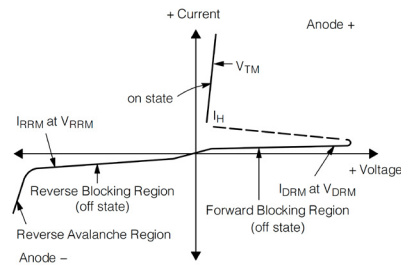

Figure 1. Typical RMS Current Derating
- Ratings apply for $t_w = 1$ ms. See Figure 1 for ITM capability for various duration of an exponentially decaying current waveform, t_w is defined as 5 time constants of an exponentially decaying current pulse.
- Ratings apply for $t_w = 1 \text{ ms}$. See Figure 1 for I_{TM} capability for various durations of an exponentially decaying current waveform. t_w is defined as 5 time constants of an exponentially decaying current pulse.